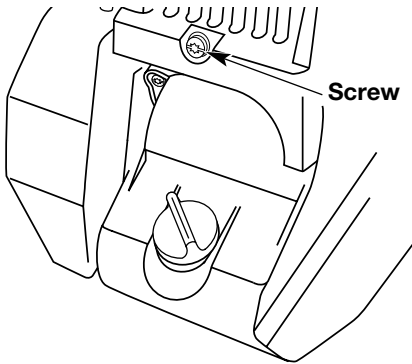

Fig. 51
- Remove the screw on back of the engine cover (Fig. 51).